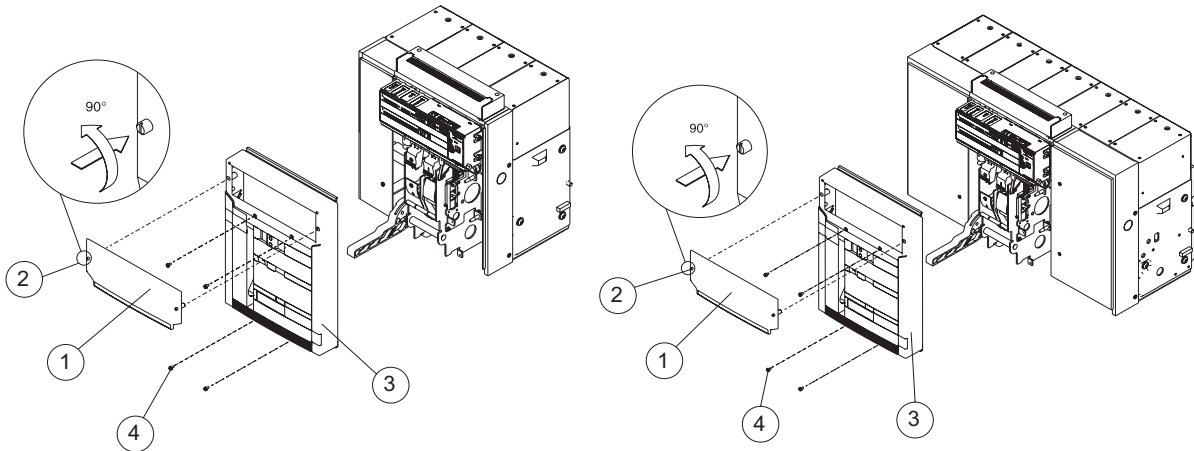

Figure 33. _____
- The tab (1) of the release by rotating the screws (2) as shown in Figure 33.
- Remove the front cap (3) by loosening the four screws (4).